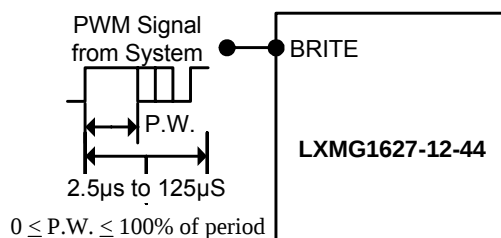

Figure 1A – PWM Brightness Control
- The brightness control may be a voltage output DAC or other voltage source, a digital pot or 500K manual pot. The inverter contains an internal 191k pull-up resistor in series with 43.2k to 4.2V to bias the pot (see block diagram). A PWM Logic level signal (figure 1A) may be used up to 5V; however the inverter will reach maximum current at less than 100% duty cycle. This can be calculated as approximately 2.3V divided by the logic high voltage level; with 3.3V logic level this corresponds to about 70% duty cycle for maximum lamp current.